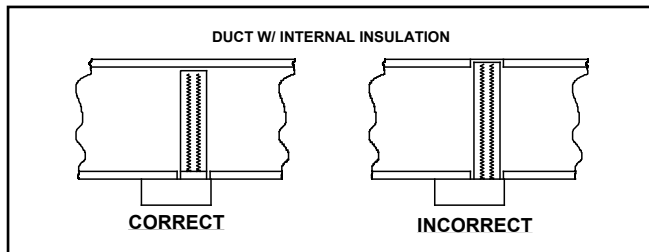

FIGURE 3.1.7 PLACEMENT: OBSTRUCTION REQUIREMENTS
11. Never install a standard heater into a duct with an internal obstruction. Due to the fact that an obstruction can block airflow at the temperature limit controls and element terminations. If this situation exists, it can be corrected by using a heater with a recessed control box and reduced wrapper size. This situation is common with internally insulated ducts. (see Figure 3.1.7)